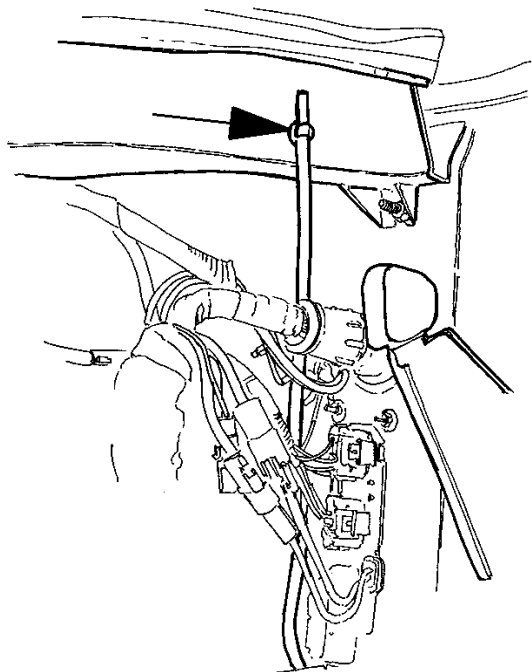
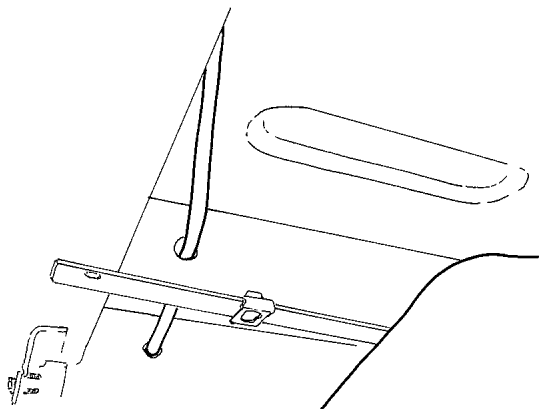

Figure 8 Clip Breather Vent Hose to Cowl Tray (at Arrow)
Figure 9 Hose Routing Through Hole in Reinforcement
11. Clip the breather vent hose to the hole in the cowl tray (Figure 8).
12. Route the breather vent hose down along the cab / fender area (Figure 8) then under the cab floor. Continue routing the hose through the hole in the floor reinforcement (Figure 9) and attach the hose to the vent on the new washer reservoir.